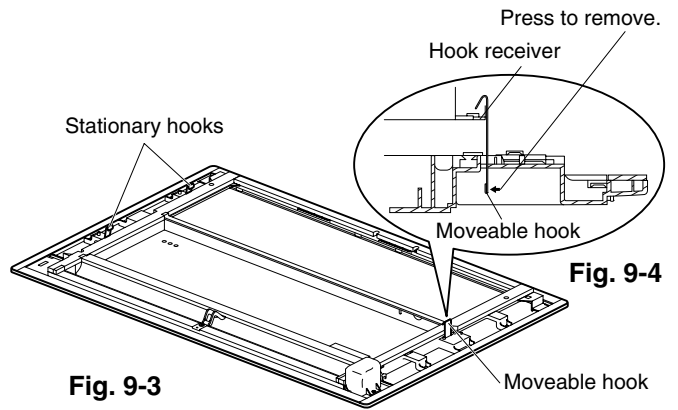

Fig. 9-3
- (1) Fasten the hooks on both sides of the ceiling panel to the indoor unit. The hooks on one side (2 locations) are stationary, while the hook on the other side is moveable. (Fig. 9-3)
- (2) Place the panel at a slight angle, and fasten the panel stationary hooks onto the hook receivers on the side of the indoor unit.
- (3) After verifying that the hooks are fastened, press the other side of the panel up so that it is level. Press up until the moveable hook has fastened to the hook receiver on the indoor unit.
- (4) Verify that the hooks on both sides of the ceiling panel have been securely fastened before removing your hands. At this point the panel is provisionally attached to the indoor unit.